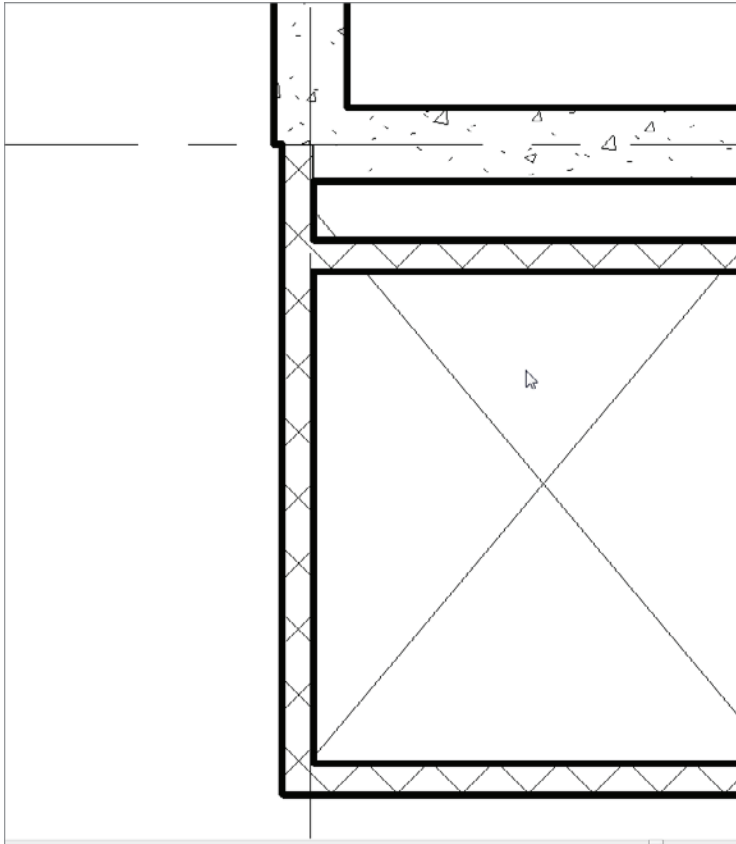

FIGURE 8.52 The walls are not behaving as we would like them to.
2. Zoom in to the east wing area, where the north elevator meets the foundation wall. There is an issue: the walls are funky, as shown in Figure 8.52.